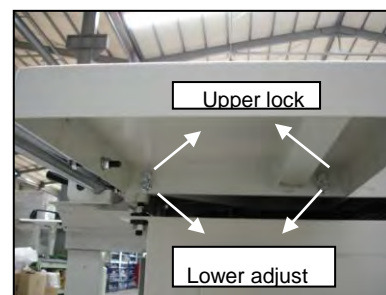

Fig. 6
3. Attach the large extension table with three cap screws, lock washers and flat washers (Fig. 6)